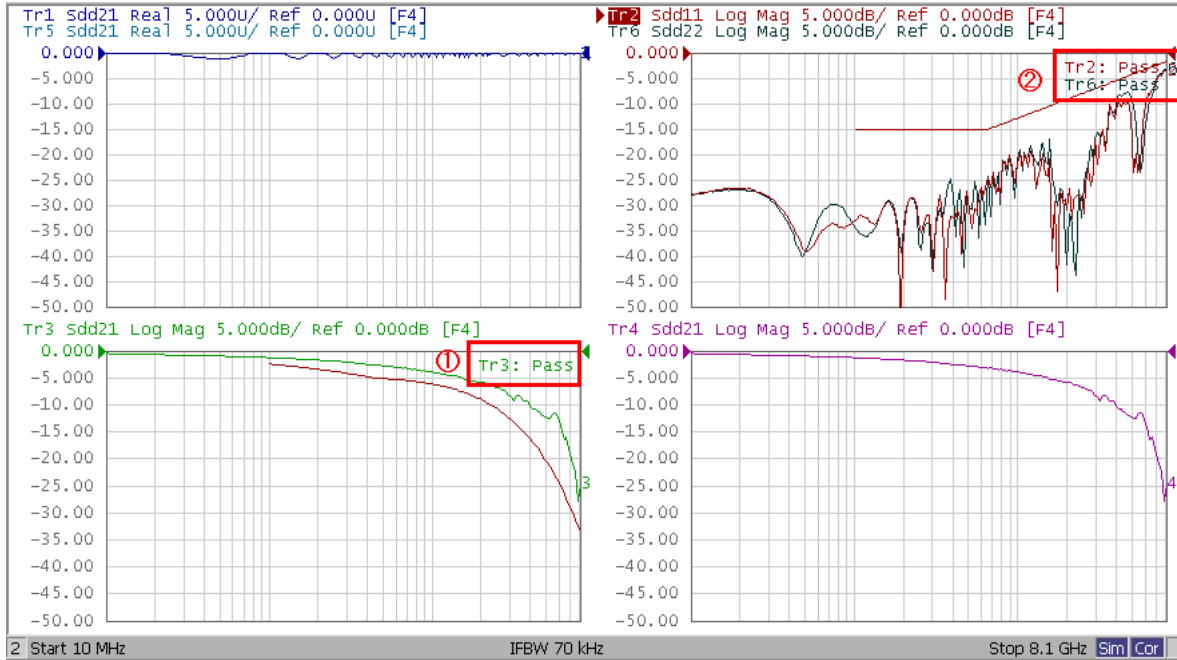

Figure 5-4: Frequency Domain Measurement Example
Read Pass/Fail signs on Trace3. (item1 in Figure 5-4).
Read Pass/Fail signs on Trace3. (item2 in Figure 5-4).